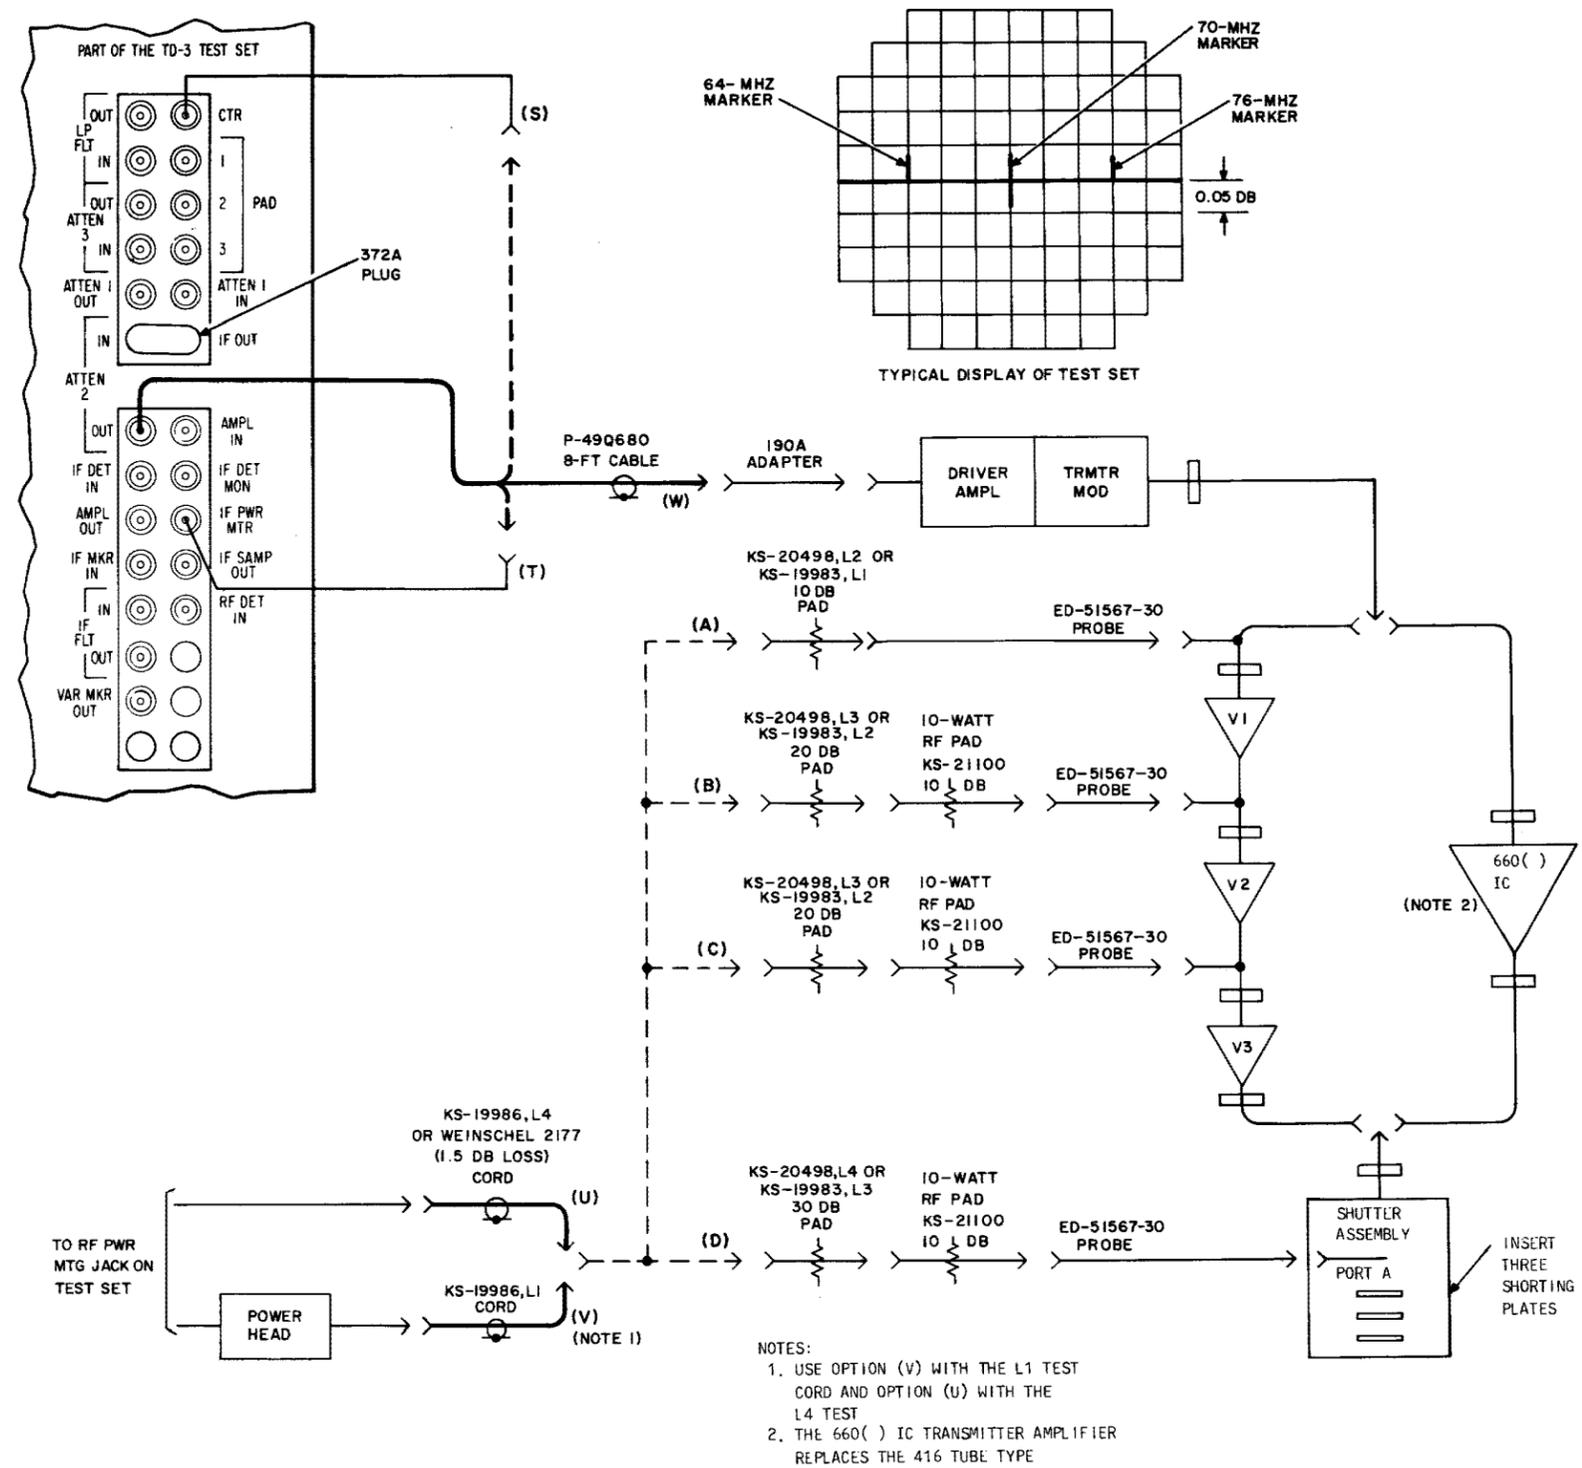
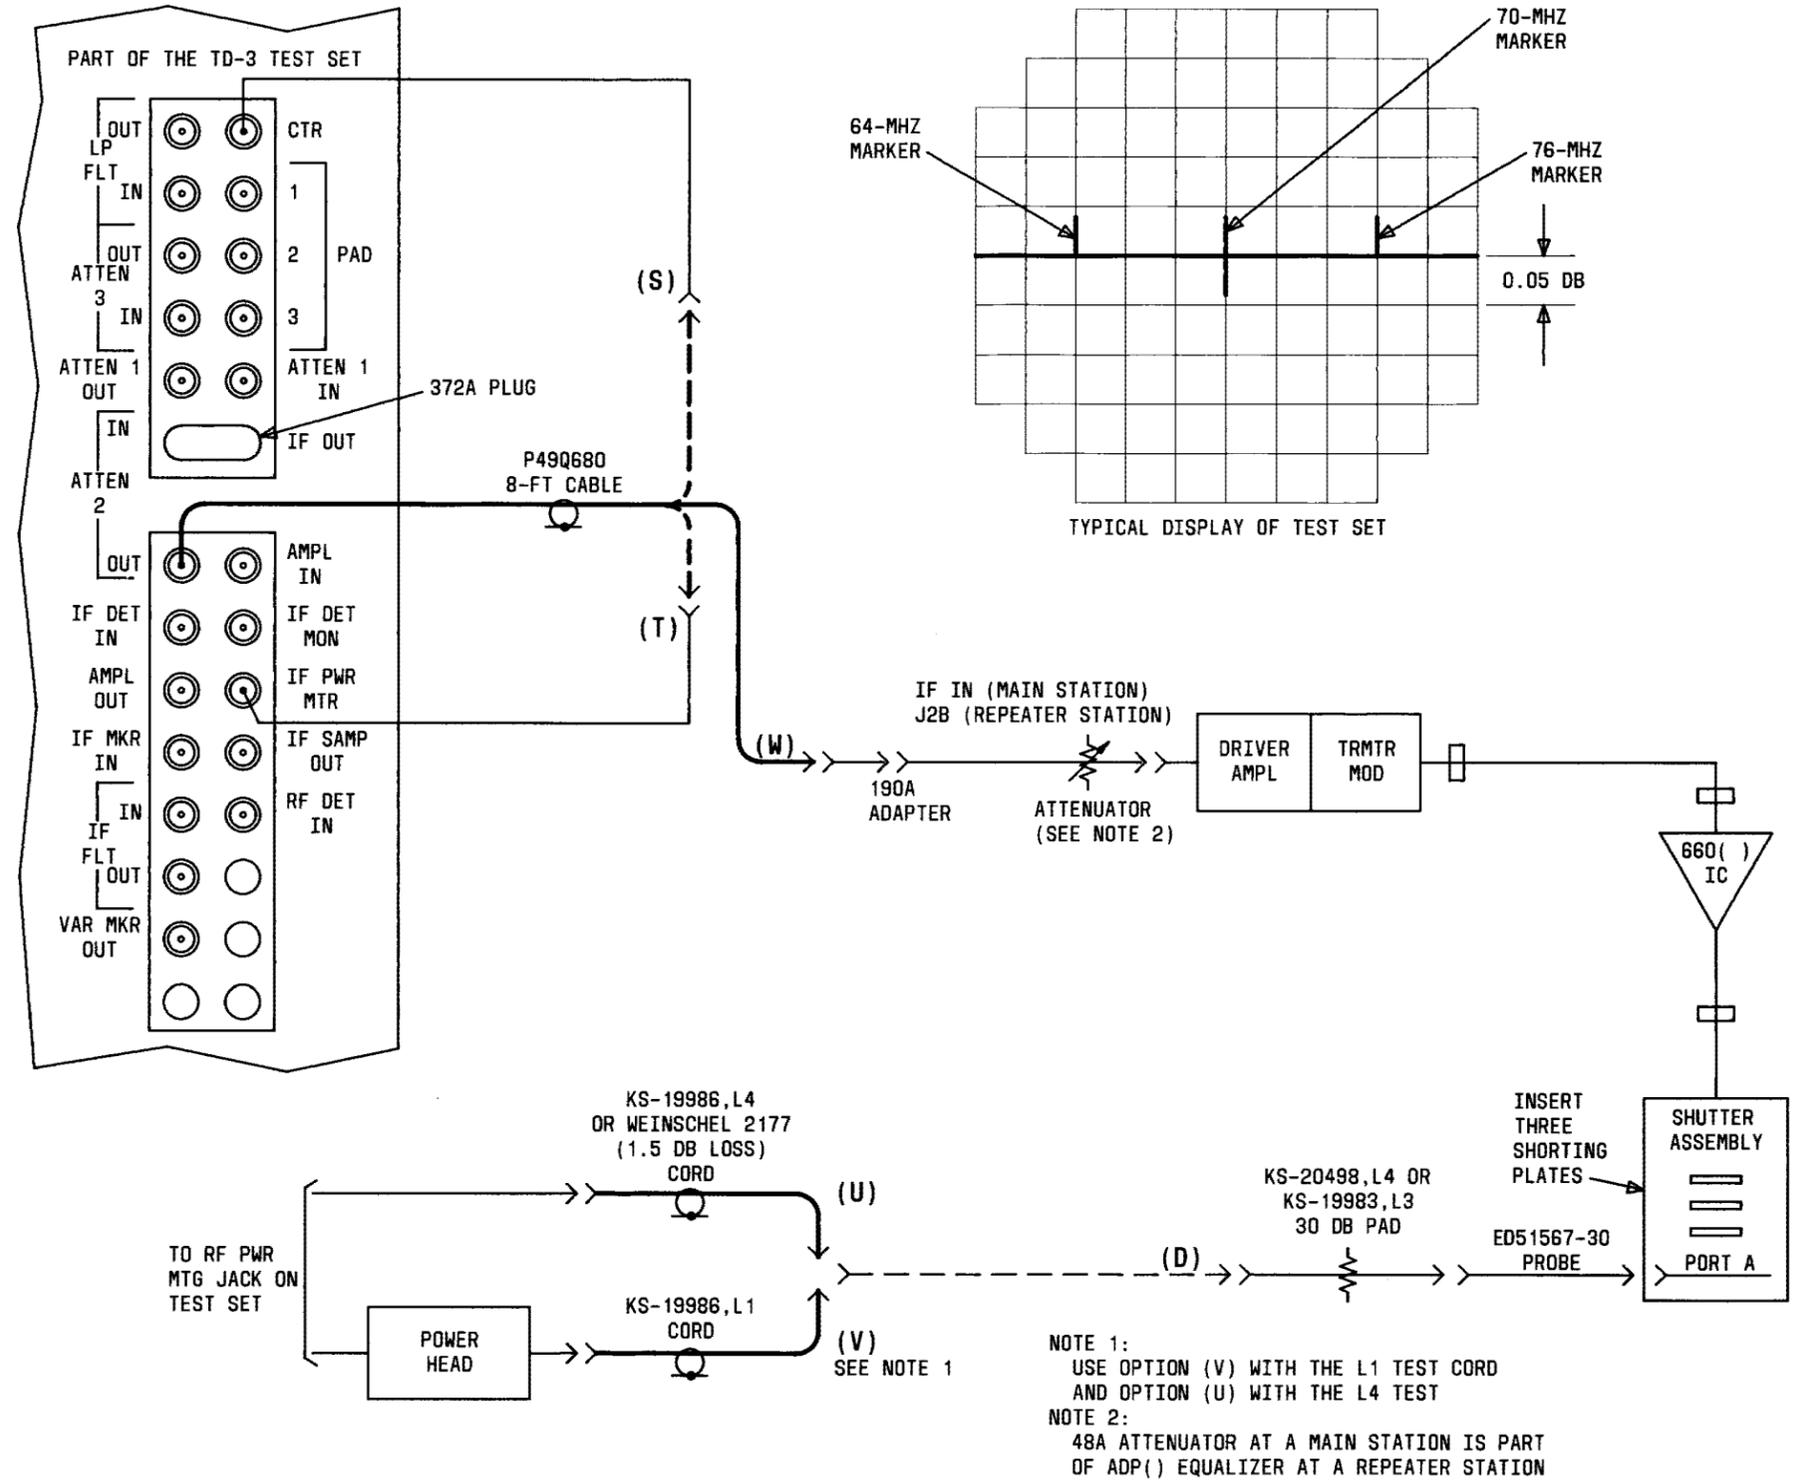

Fig. 6—Overall Transmitter Gain Test
Fig. 8—Overall Transmitter Gain Test for 45-Mb/s Digital Operation
28	Connect the test equipment according to Fig. 6, options (W), (D), and (U) or (V).
39	Establish connections in Fig. 6, options (W), (D), and (U) or (V).
1	Make the test connections as outlined in Fig. 6 (analog FM) or Fig. 8 (45-Mb/s digital), options (W), (D), and (U) or (V).
PREPARATION FOR TEST (FIG. 6)
PREPARATION FOR TEST (FIG. 8)